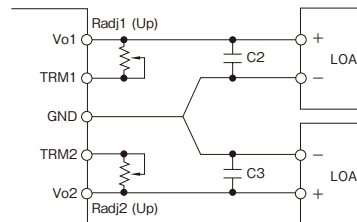

Fig.3-2: Connection for output voltage trim up
- a) Vo1/Vo2 terminal: to adjust to higher output voltage; Fig. 3-2 or